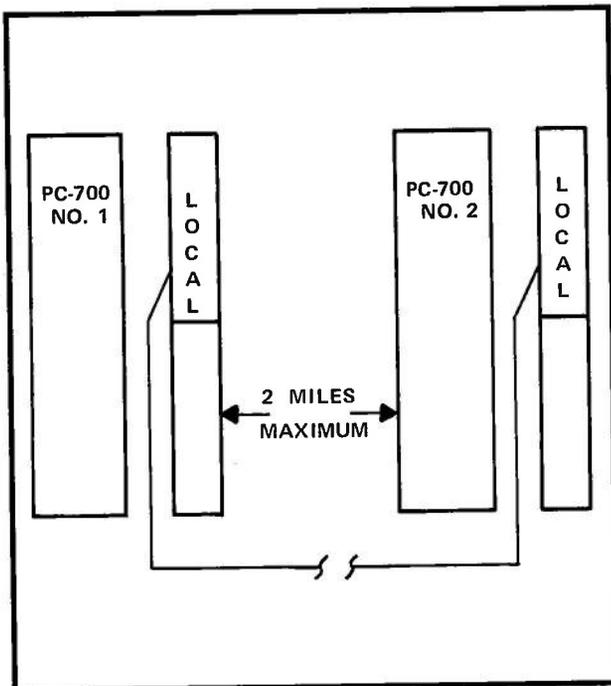

Figure 2. Interprocessor Data Exchange
The TR function can be used with its companion, the Register-to-Table Move (RT) function. Consider the example shown in Figure 2. Normally, the transmission of 256 inputs to the remote site requires four local units, four remote units, and four expander power supplies. If the function is not time critical, the circuits in Figures 3 and 4 are used.